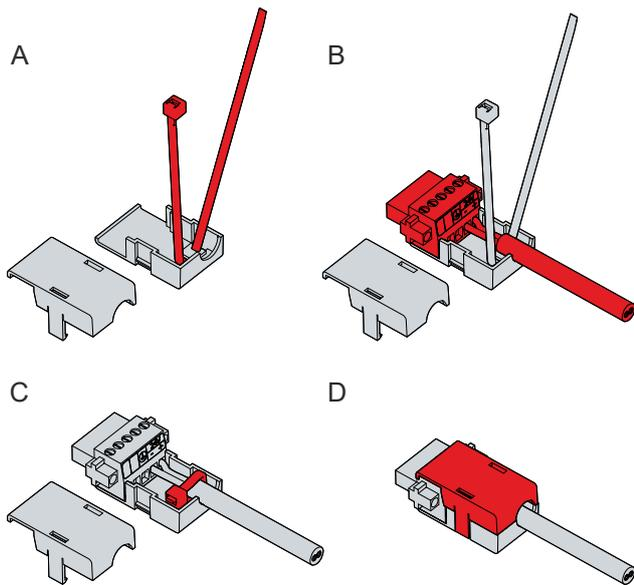

Fig. 13: CP6600_Asembly of strain relief housing
1. Use your fingers to bend the latching lugs on the lower part slightly outward (see Fig. 13).